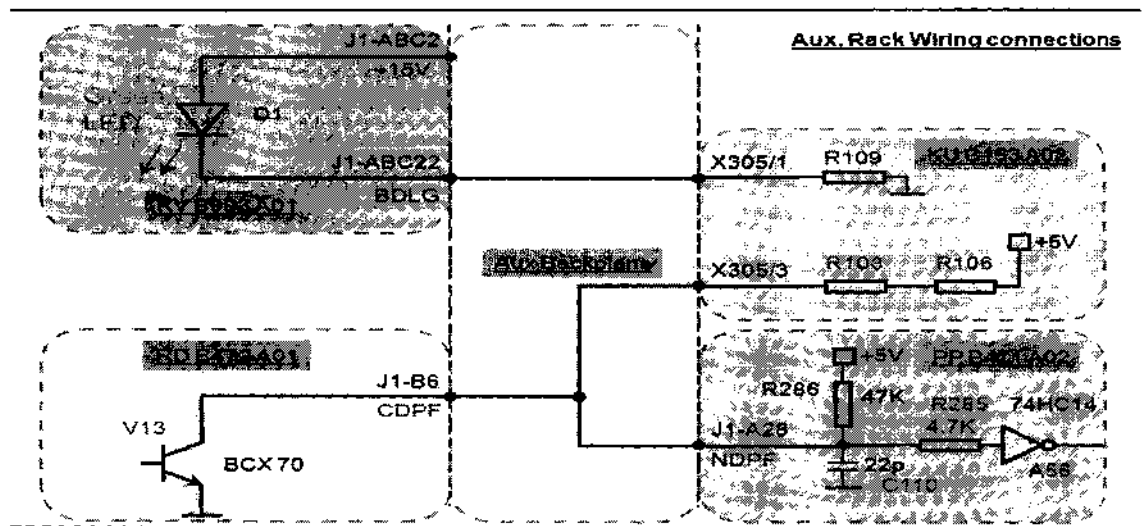

Figure-3
- 2.4 When the connector X305 is connected properly, the circuit is different and removes the connection of the relay from the circuit. The circuit in this case is described in figure-3.